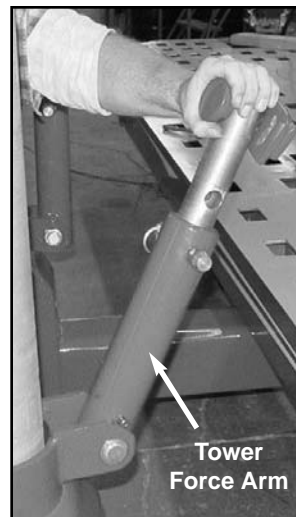
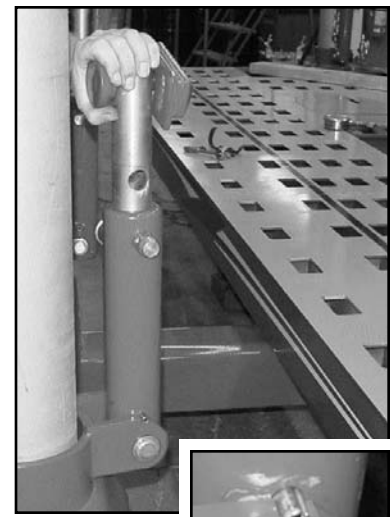

Figure 11
Figure 12
1. Disengage tower force arm from mainframe and pivot force arm upward. (See Figure 11.) **IMPORTANT:** Force arm pin must engage notch in force arm collar. See Figure 12 and its inset.)